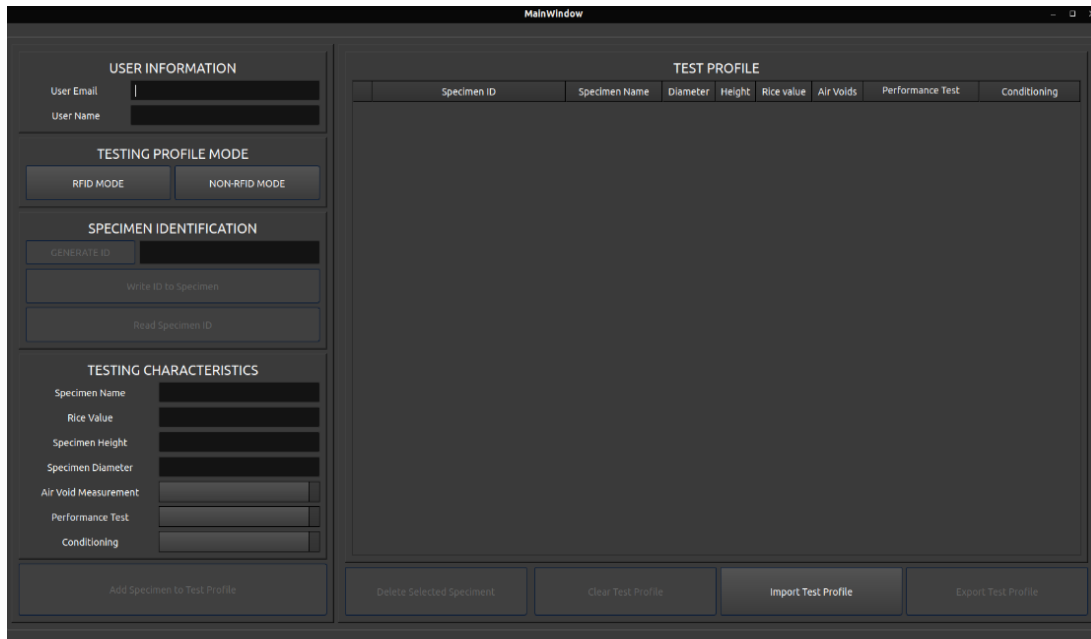

Figure 13. AMAZE Registrar Software
3. **Prepare Testing Profile File for AMAZE.** To initiate the testing process, it is imperative to create a testing profile file using the AMAZE registrar software specifically designed to guide users through the creation of a testing profile file. This step is mandatory for each test, regardless of the number of samples being evaluated—even for individual sample testing. Figure 13 shows the AMAZE registrar graphical user interface (GUI).